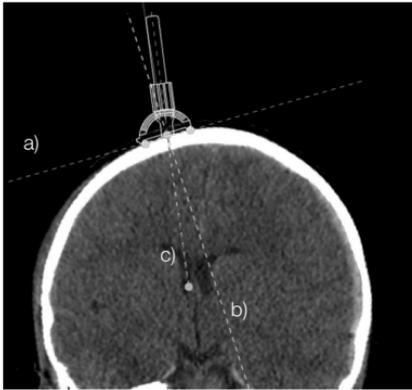

Fig. 6: cCT in a reconstructed layer along the catheter
1. The most accurate method to determine the individual insertion angle of the ventricular catheter guide to the tangent is done by importing biparietal data of the skull into a planning software (for example, Osirix or a similar navigation software). An optimal trajectory for the ventricular catheter can thereby be defined. The coordinates of the entry point, e.g. into the nasion and the centre line can be measured. Draw the tangent of the entry point on the projected coronal plane and measure the angle of the trajectory (c) to the tangent (a) (Fig. 6 and 7). Now the insertion